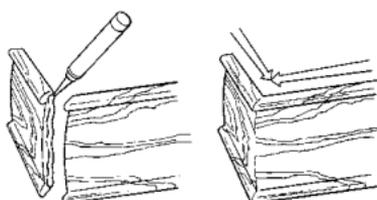

Figure E2
1. Apply a thin coat of glue to the mitered end of both the wood valance and the valance returns. (See Figure E2)
2. Join the ends of the valance returns with the valance by pressing the mitered edges together firmly for 60 seconds. (See Figure E2)